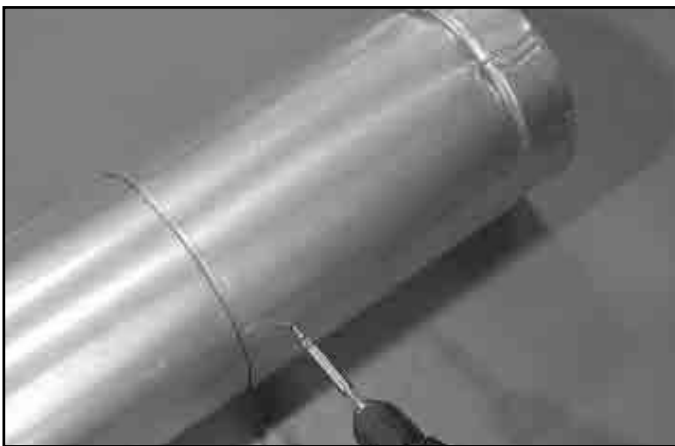

Figure 10.4 - Screws into Slip Section
- Secure the pipe and slip section with two screws no longer than 1/2 in. (13 mm), using the pilot holes in the slip section. See Figure 10.4.